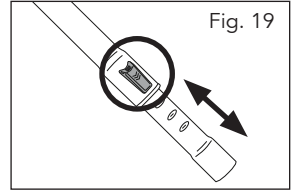

Fig. 19
The height of the telescopic suction tube (19) can be adjusted by using the quick height adjustment. (Fig. 19)